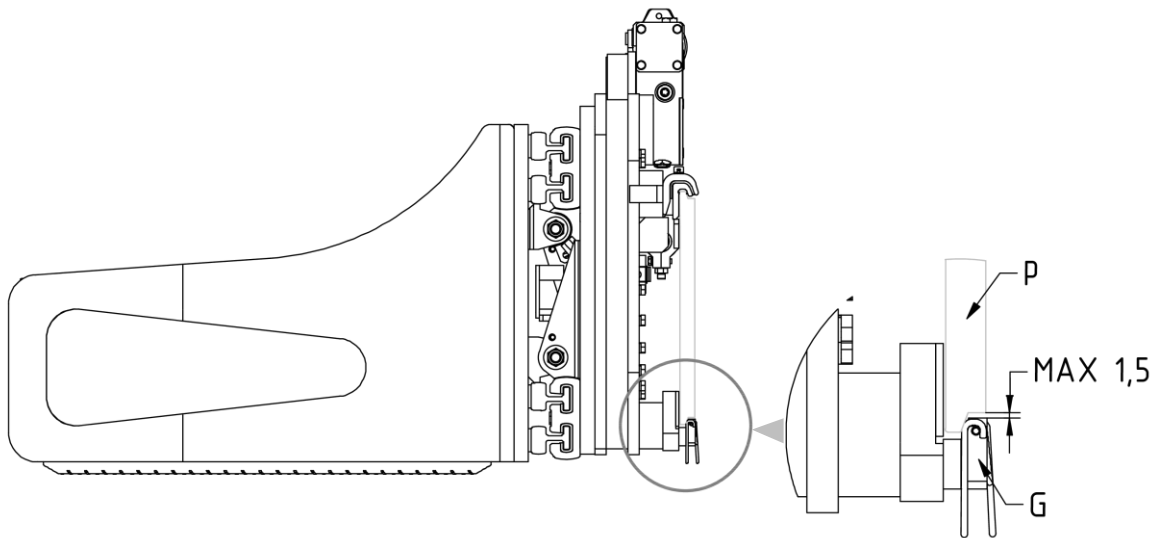

Figure 9
9. Screw on the 2 lower couplings **G** in such a way that their bodies also remains coupled to the lower part of the fork carriage **P** (with max. clearance of 1.5 mm, see detail *Figure 9*), tightening with the torque indicated in *Table 4*.
3. Check clearance between the lower part of the fork carriage and the lower equipment couplings, ensuring that it is as shown in *Figure 4* (page 12) and in *Figure 9* (page 16) and, if necessary, adjust the bolts holding them in place.